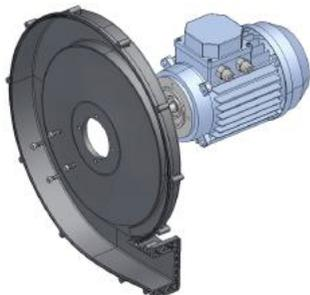

FIGURE 3
1. Secure the electric motor to the motor housing and fasten with n°4 low cylinder-head M6x20 screws UNI 9327 (bolts supplied) with a max. torque of 8Nm (FIGURE 3);